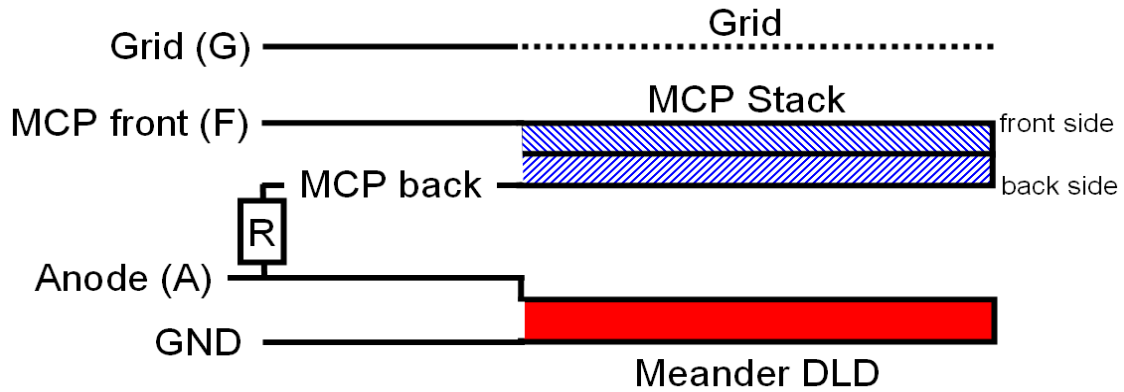

Figure 7: Internal connection of high voltage potentials (schematic)
The high voltage potentials for the delayline detector: Anode/ MCP back (A), MCP front (F), and detector housing/ grid (G) are written directly on the SHV feed-throughs. The internal high voltage connection for the delayline detector is given schematically in Figure 7.